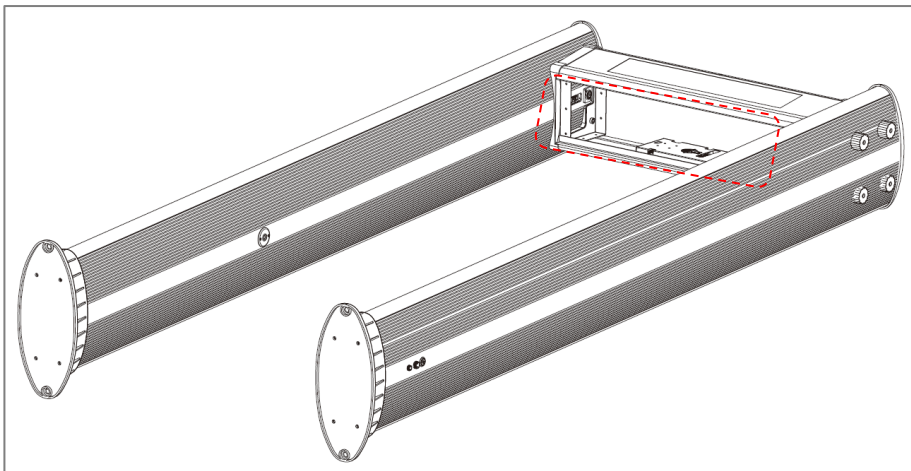

Figure 3-3
**Step 3:** Open the main box, as shown in figure3-3 below.